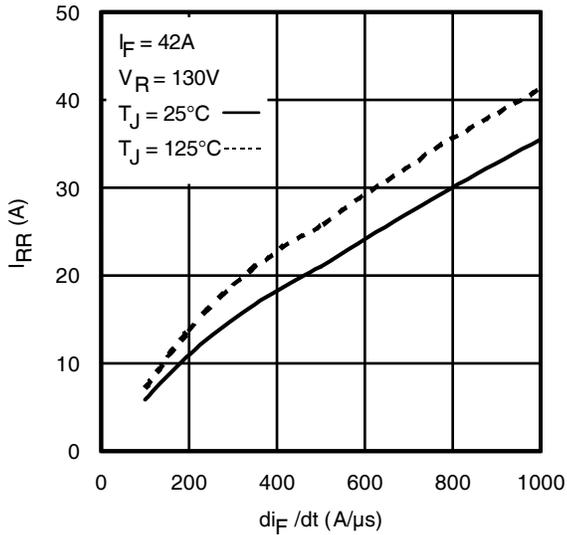

Fig. 14 - Typical Recovery Current vs. di_f/dt
| I_{AR} | Avalanche Current ② | See Fig. 14, 15, 22a, 22b, | A |